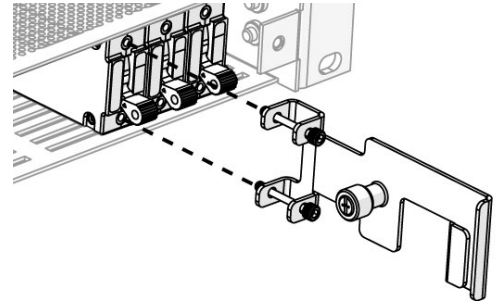

Figure 19. Breaker Extraction Tool
- Step 3.** Using the captive screws, attach the breaker extractor to the breaker. There are threaded inserts on the face of the breaker for this purpose (see Figure 19).